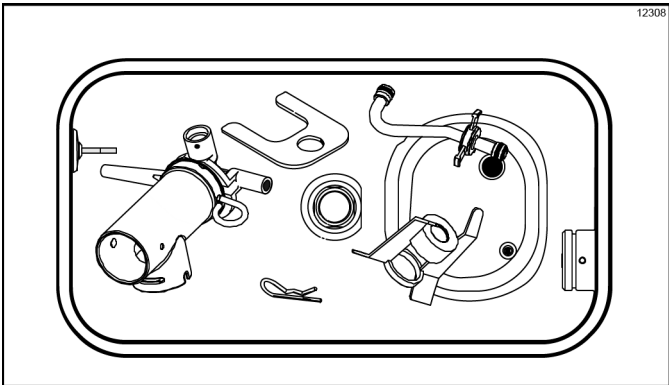

Figure 6-41
12. Lay the pump assembly, pump clip, cotter pin, mix feed tube assembly, and agitator in the bottom of the mix hopper for sanitizing. (See Figure 6-41.)